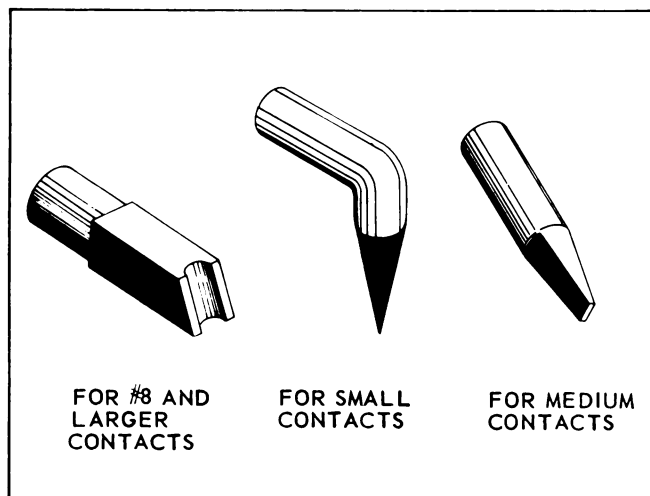

Figure 3-23. Soldering Iron Tip Shapes
i. Copper soldering iron tips should be chosen so that the shape will provide good heat transfer. A large contact area touching the solder cup will aid in producing a good connection quickly. See Figure 3-23 for suitable iron tips.